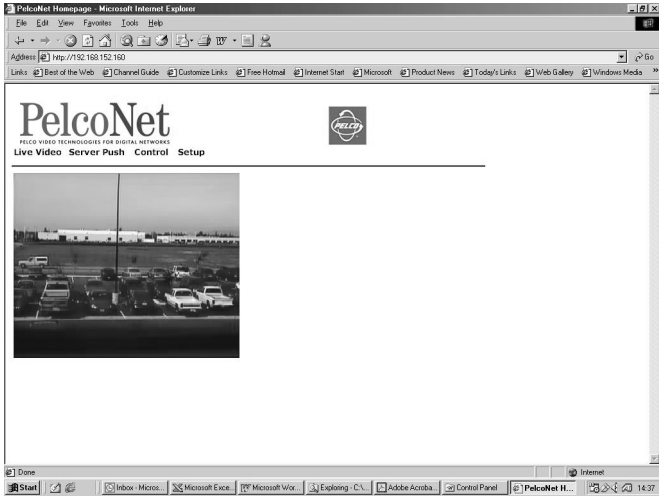

Figure 6. PelcoNet NET104A Home Page
- To activate the Live Video feature, click **Live Video** above the video window on the PelcoNet NET104A Transmission System home page (see Figure 6). The unit transmits using the H.323 coding format for display in the browser.